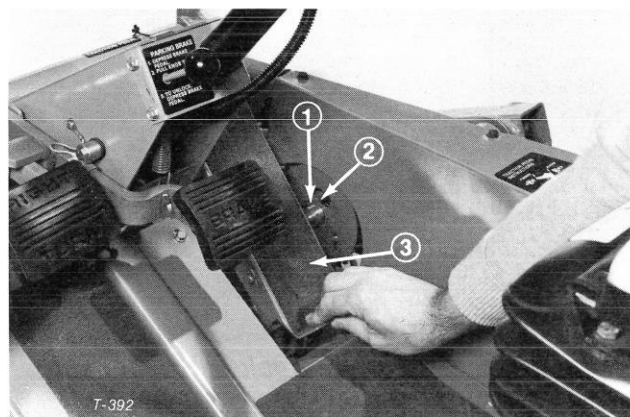

Figure 40
3. With plate against coil, rotate shaft assembly on outside of coil so that inner portion of shaft assembly contacts forward end of slotted hole in clutch plate (Fig. 40). This functions as a reverse lock out when the coil is engaged. Tighten shaft assembly capscrews and check operation of cruise control; proceed to step 4.